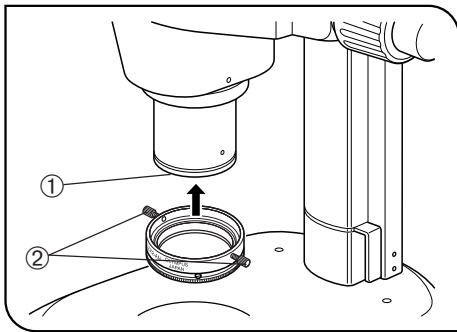

Fig. 11
(Figs. 11 & 12)
- Fit the analyzer into the objective tip ① so that model name indication “SZX2-AN” comes on the front, and tighten the two clamping knobs ② firmly. (Fig. 11)